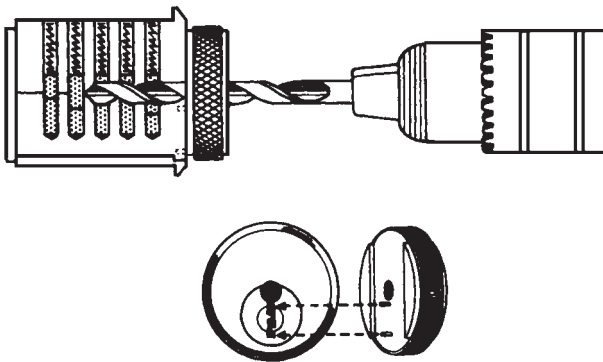

Figure 17.1 A drilling jig can help you drill straight. (*Desert Publications*)
2. Drill about $\frac{1}{8}$ inch above the shear line or shoulder of the plug and directly above the top of the keyway (Fig. 17.1). A drilling jig can be useful to ensure that you drill at the proper point on the lock face. Use a $\frac{1}{8}$ - or $\frac{3}{32}$ -inch drill bit.